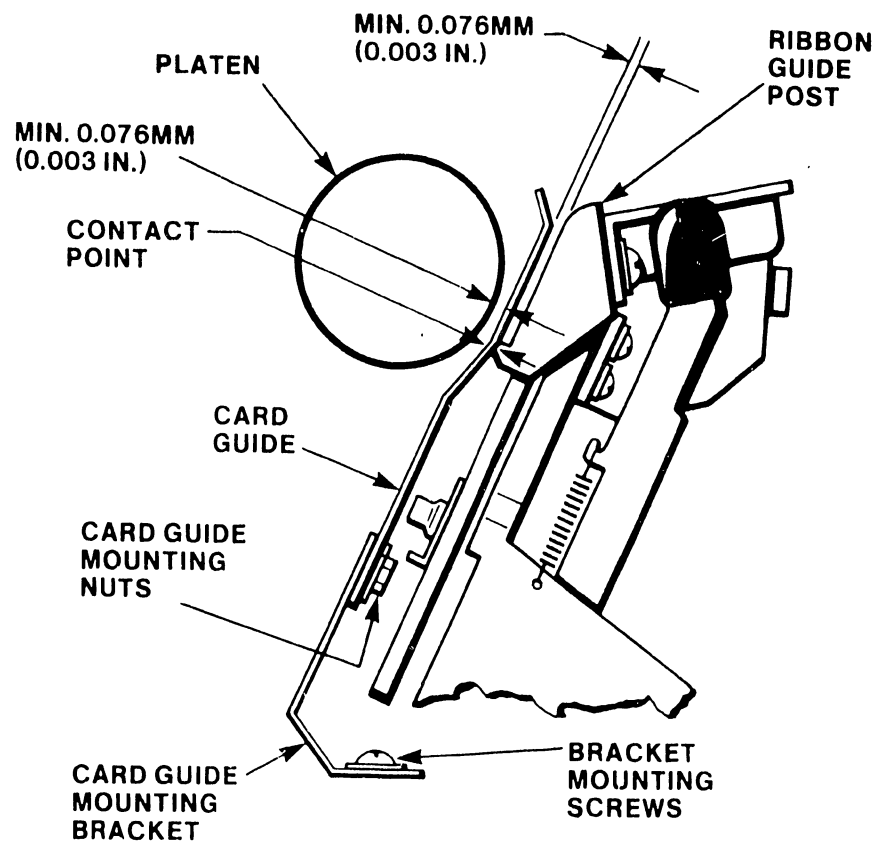
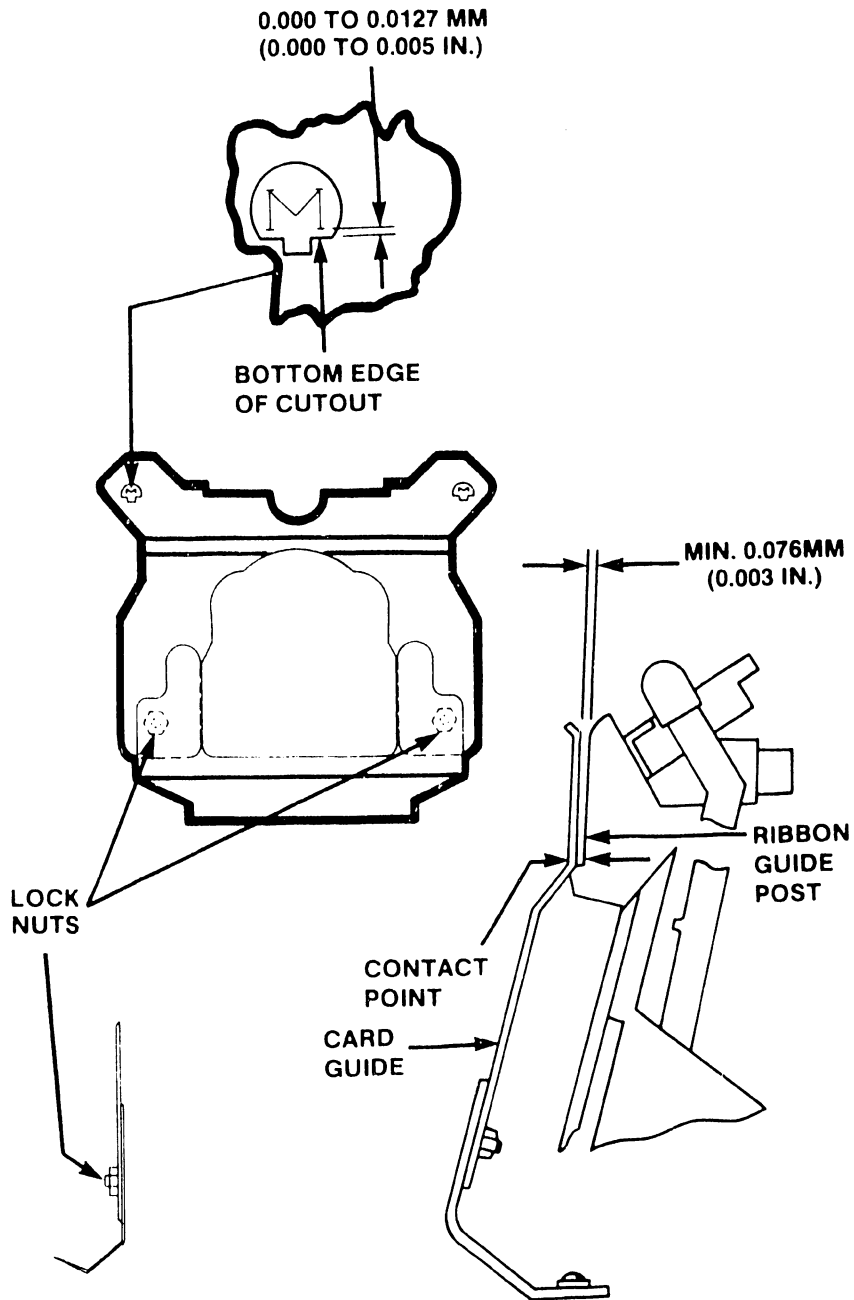

FIGURE 5-15 CARD GUIDE ALIGNMENT (INITIAL)
FIGURE 5-17 CARD GUIDE ALIGNMENT (FINAL)
### 5.13 CARD GUIDE ALIGNMENT (INITIAL SETUP) (Figure 5-15)
6. Raise or lower card guide to align contact point as shown in Figure 5-15.
2. If the printer has been modified for use of Diagnostic Display Board WLI # 190-0739, move the carriage by hand to check the character placement in the cutouts of the card guide. The bottom line of the character must be even with or slightly above the bottom edge of the cutouts in the card guide as shown in Figure 5-17 (within 0.000 to 0.005 in). If the bottom edge of the characters are not within tolerance, perform the adjustment procedure contained in paragraph 5.15.2.
- a. Remove the 4.0 A (SB) fuse from the 7364A PCB using an insulated tool.
- b. Move the carriage by hand to check the character placement in the cutouts of the card guide. The bottom line of the character must be even with or slightly above the bottom edge of the cutouts in the card guide as shown in Figure 5-17 (within 0.000 to 0.005 in). If the bottom edge of the characters are not within tolerance, perform the adjustment procedure contained in paragraph 5.15.2.
2. Loosen the two card guide mounting nuts (Figure 5-15).
3. Align the card guide as shown in Figure 5-17.
4. While holding the card guide in its adjusted position (Figure 5-17), tighten the two card guide mounting nuts (Figure 5-15).
The bend in card guide (see Figure 5-15) must rest on the projections of the ribbon guide posts. Should the projections be severely worn it will be necessary to replace the carriage assembly (WL # 279-5127).